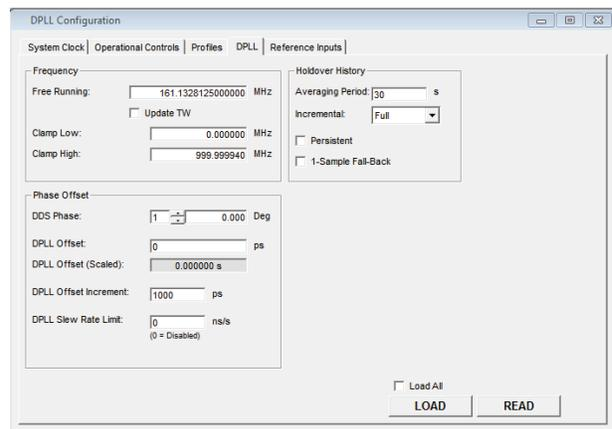

Figure 9. DPLL Configuration Window
1. Select the **DPLL** tab on the **DPLL Configuration** window (see Figure 9).
The **DPLL Free Run and Holdover Control** window shown in Figure 9 is opened by clicking the **DPLL** tab on the **DPLL Configuration** window. Set the free run frequency, the phase offset, and holdover history using this window.